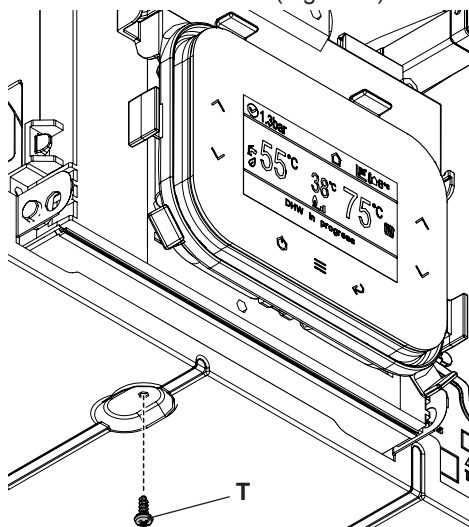

Fig. 6.15
- Unscrew the screw "T" (Fig. 6.15).